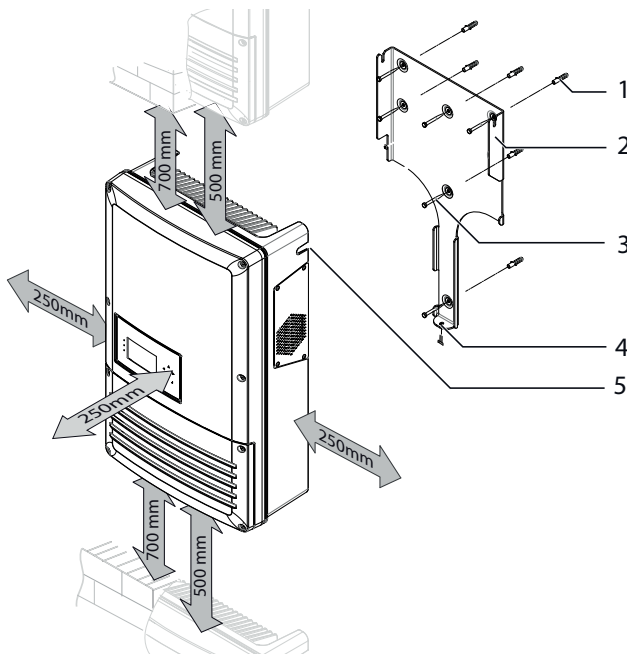

Figure 10: Minimum clearances
- Minimum clearances to be observed during assembly: see Figure 10 on page 15.